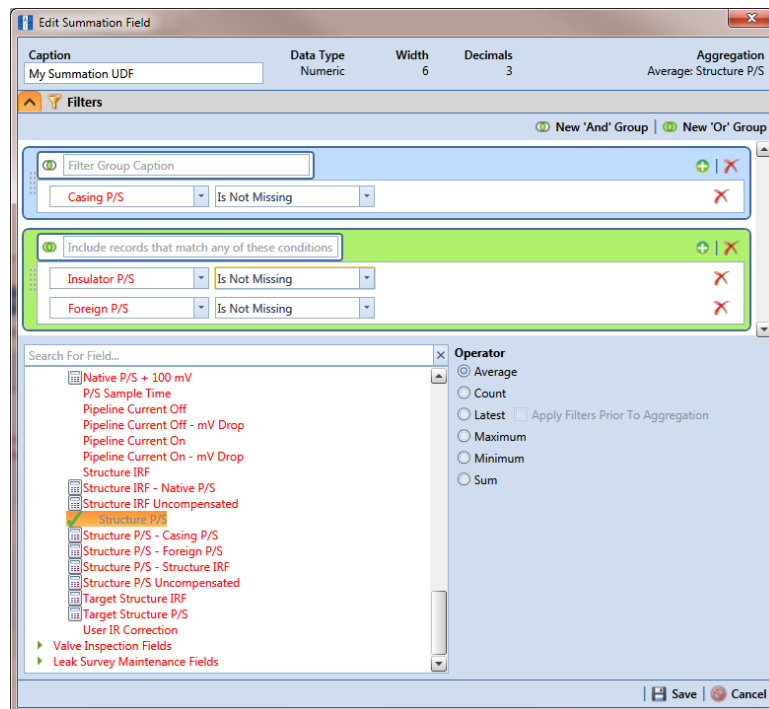

Figure 3-63. Edit Summation
- 4 When the dialog box *Edit Summation Field* opens, change UDF settings as needed, such as selecting a different *target field* in the list of fields in the selection panel or a different *Operator* option (Figure 3-63).